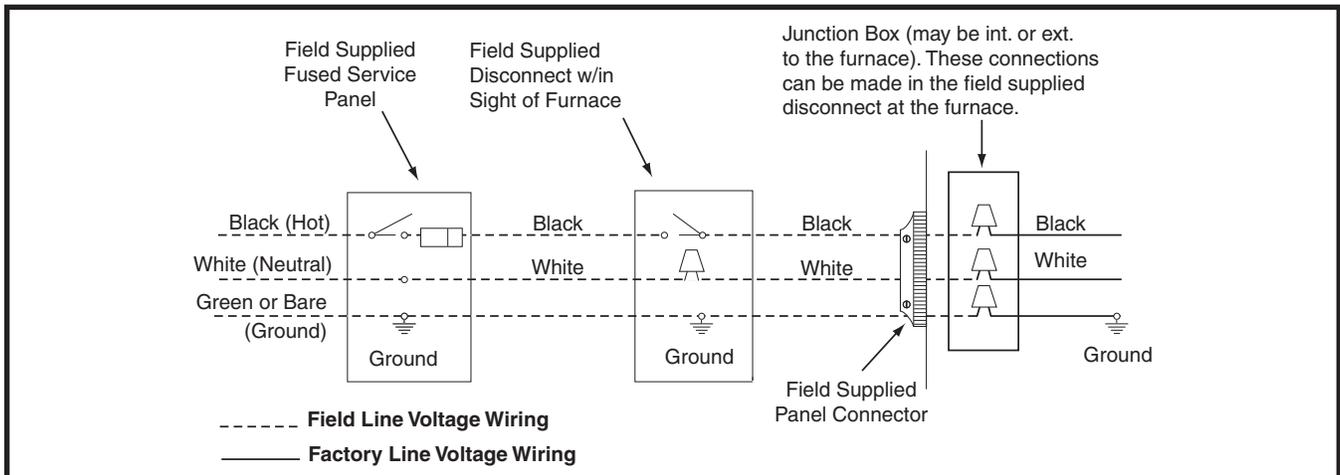

Figure 23. Line Voltage Field Wiring
- An electrical disconnect must be installed readily accessible from and located within sight of the furnace. See Figure 23 or the wiring diagram label inside of the control door. Any other wiring methods must be acceptable to authority having jurisdiction.
- Proper line voltage polarity must be maintained in order for the control system to operate correctly. Verify the incoming neutral line is connected to the white wire and the incoming HOT line is connected to the black wire. The furnace will not operate unless the polarity and ground are properly connected as shown in Figure 23.